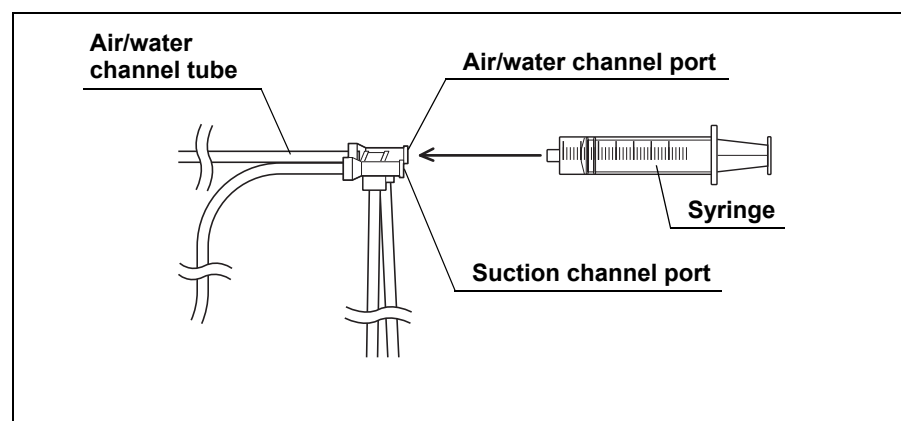

Figure 5.36
5. Move the syringe to the air/water channel port of the injection tube and flush the air/water channel with 90 ml of water (i.e., pump the syringe at least three times). (See Figure 5.36)
9. Move the syringe to the air/water channel port of the injection tube and flush the air/water channel with 90 ml of air. (See Figure 5.36)
3. Move the syringe to the air/water channel port of the injection tube and forcefully flush the air/water channel with 180 ml of the disinfectant solution. Confirm that no air bubbles exit the distal end during the sixth flush. If air bubbles still exit, flush the channel with the disinfectant solution until no air bubbles exit. (See Figure 5.36)
4. Move the syringe to the air/water channel port of the injection tube and flush the air/water channel with 90 ml of air. (See Figure 5.36)
6. Move the syringe to the air/water channel port of the injection tube and flush the air/water channel with 90 ml of the rinse water. (See Figure 5.36)